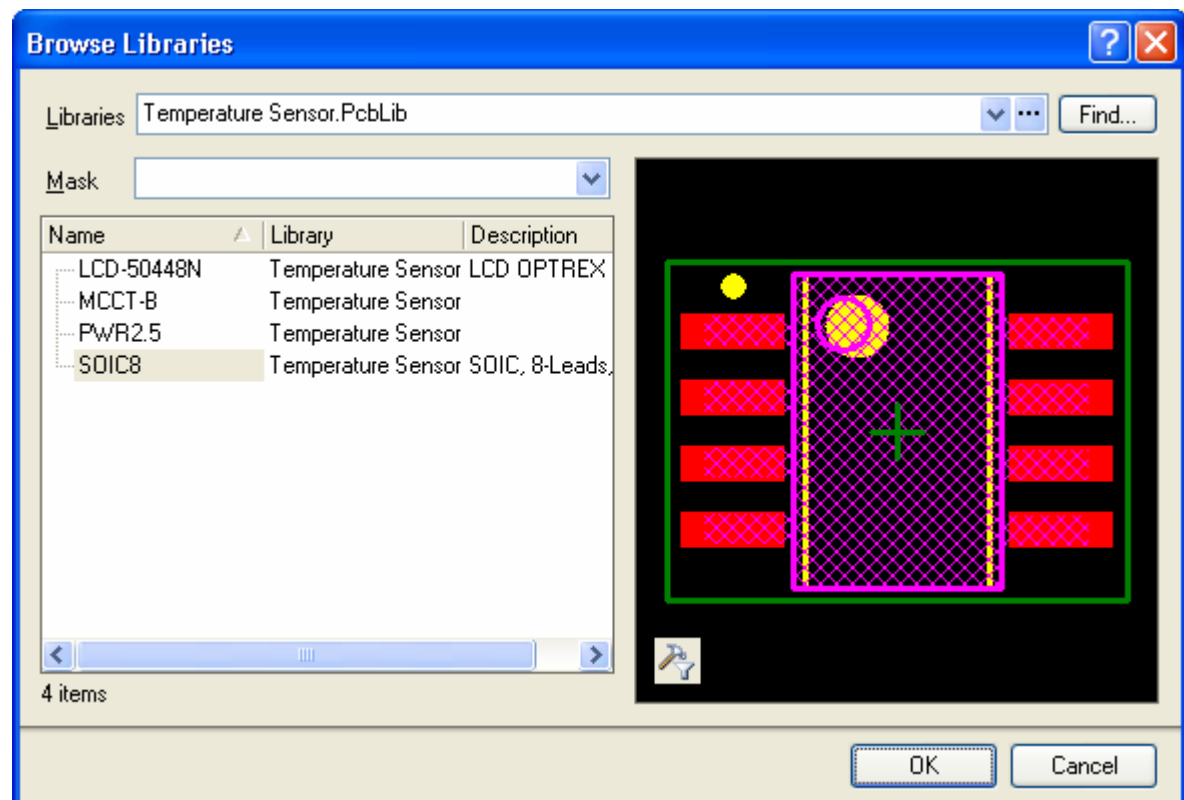

Figure 3. Use the *Browse Libraries* dialog to visually select the correct footprint.
6. If you know the footprint name, and you are confident that it is in a currently available footprint library, you can type the name directly into the **Name** field, an image of it will appear if it is located. Otherwise, you can click **Browse** to open the *Browse Libraries* dialog, as shown in Figure 3.